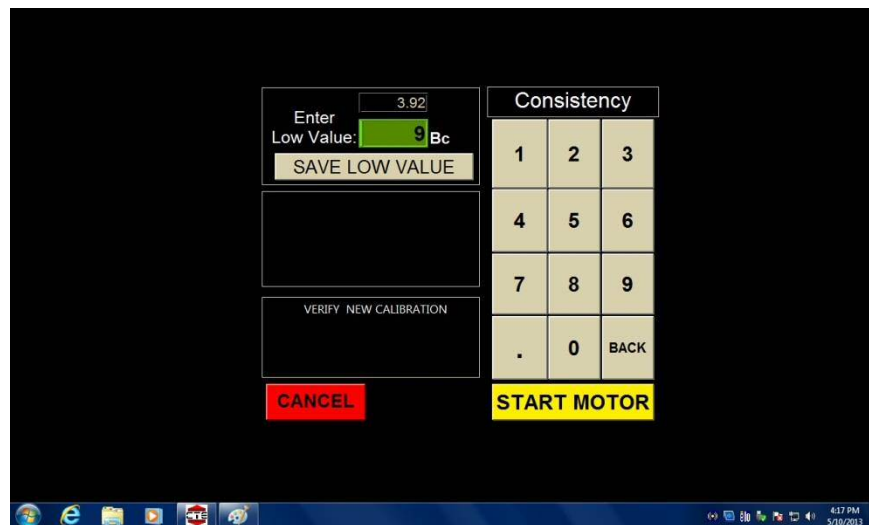

Figure 8
7. The weight of the hanger on the string is 50g. This is an equivalent of 9 Bc. On the touchscreen in the box labeled **LOW DATA POINT** input 9 on the touchpad. Select **SAVE LOW VALUE**. See figure 8. It may be necessary to tap the calibrator base to loosen any wound tension on the spring while in this screen.